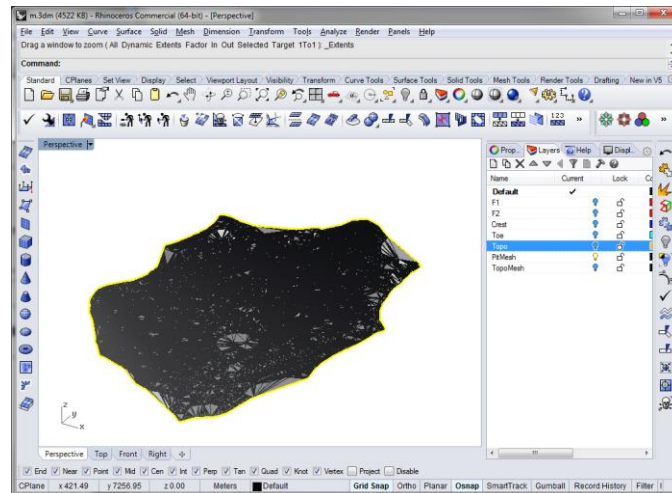

Figure 147: Duplicating the pit border.
1. **Hide** all layers. In the **Layers** Panel, turn on the **PitMesh** layer. Select the mesh and, **Curve|Curve from Objects|Duplicate Border**. This is the boundary of the pit (Figure 147).